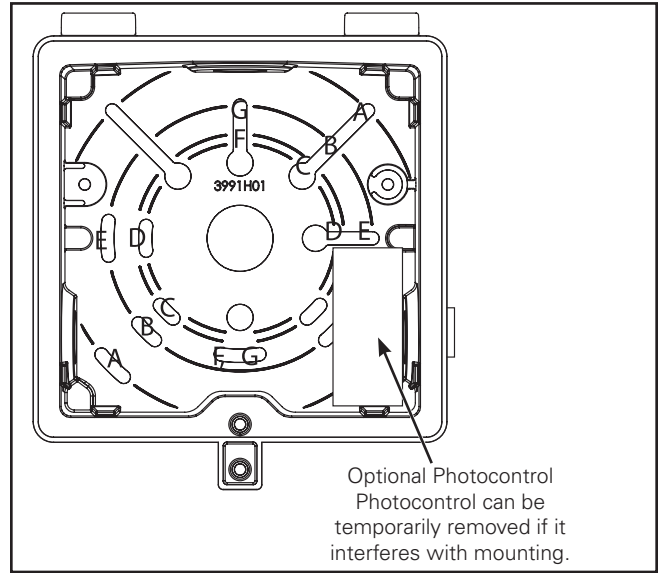

Figure 1.
1. Unscrew door with phillips screw driver. Remove door from back box. Confirm junction box size prior to removing the gasket material for the application (Figure 1). Only remove the gasket material needed for the installation. Mount back box to junction box via supplied hardware or lag mount. Utilize any junction box pairings for lag mount (Example: D-D). Lag mount hardware provided by others.